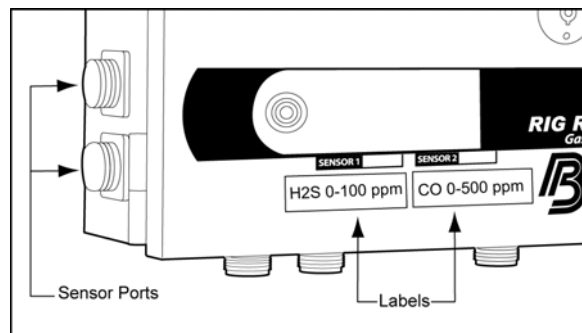

Figure 16. Labeling the Sensors on the Detector
5. On the external door of the detector, paste labels beside or below the SENSOR 1 and SENSOR 2 markers. Record the gas type and the measuring range. Refer to Figure 16.